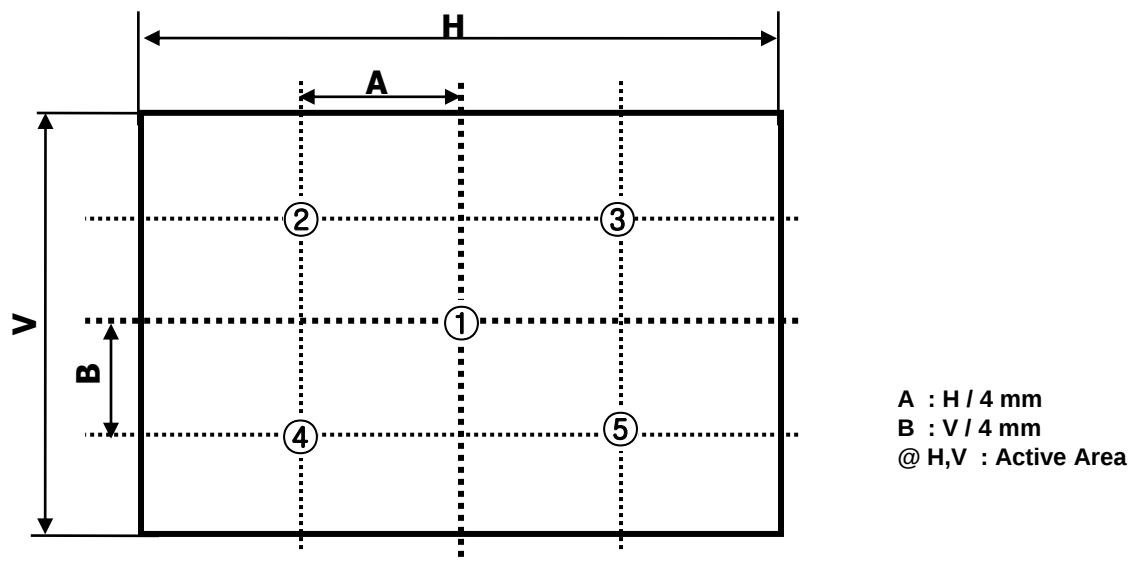

FIG. 2 5 Points for Contrast Ratio
n = the Position number(1, 2, 3, 4, 5). For more information, see FIG. 2.
- (1) Temperature : 5 ~ 40 °C
- (2) Humidity : 35 ~ 75 %RH
- (3) Period : 6 months
- (4) Control of ventilation and temperature is necessary.
- (5) Please make sure to protect the product from strong light exposure, water or moisture. Be careful for condensation.
- (6) Please keep the modules at a circumstance shown below Fig. 2
< Fig. 2 >